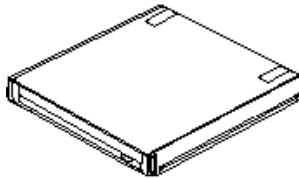

Figure 1-3 Iomega Zip Drive
- Modular 100Mb Iomega Zip removable media drive (located in the Accessories box). (Figure 1-3.)